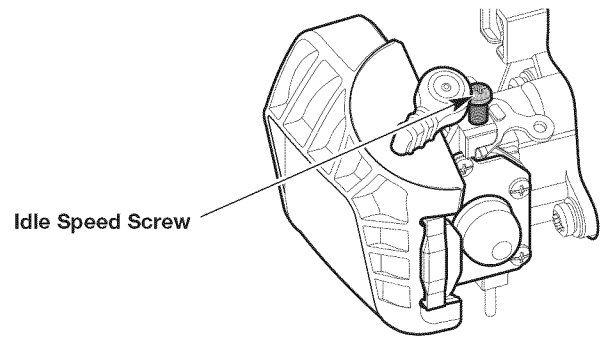

Fig. 8
2. Move the cruise control to the **LO (slow)** position and let the engine idle. If the engine stops, increase the idle speed. Use a small Phillips screwdriver to turn the idle speed screw clockwise, 1/8 of a turn at a time, until the engine idles smoothly (Fig. 8).